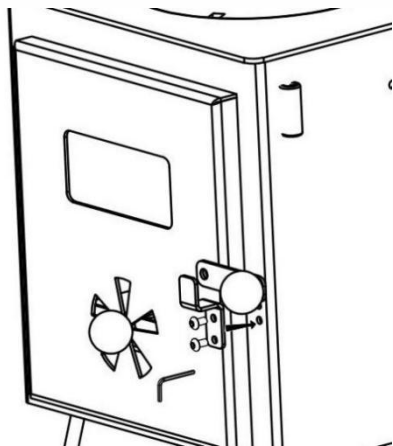

Figure 2
- I. Attach the door latch(13)to the door with bolt(12) and nut(14) ,show as Figure 2.